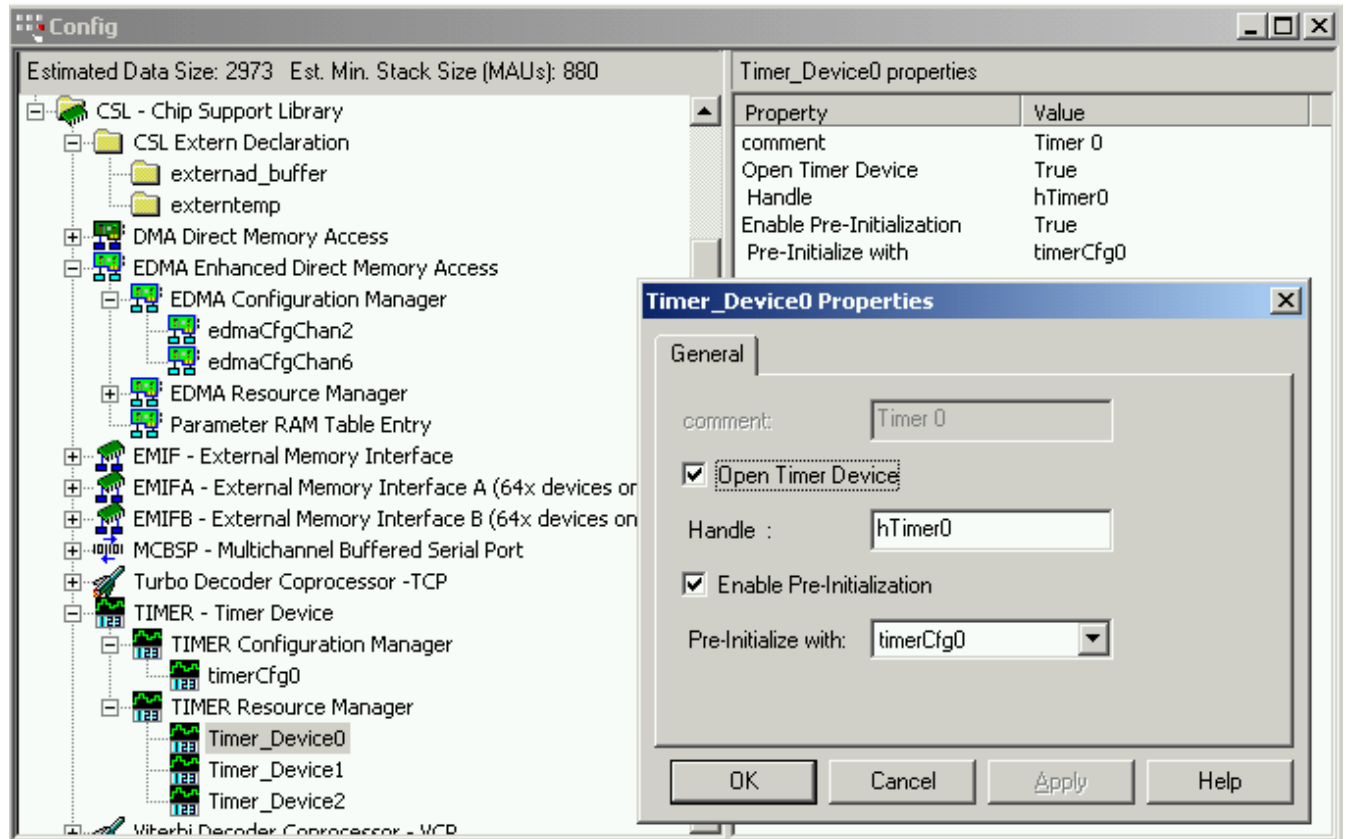

Figure 26. TimerCfg0 Mapped in Timer0 Device Tab Options
4. Now that the configuration object has been set, it must be mapped into the appropriate device. Expand the Timer Resource Manager and right click on Timer\_Device0. Select options as shown in Figure 26. Enable timer0 registers to be preinitialized and open a hTimer0 handle.